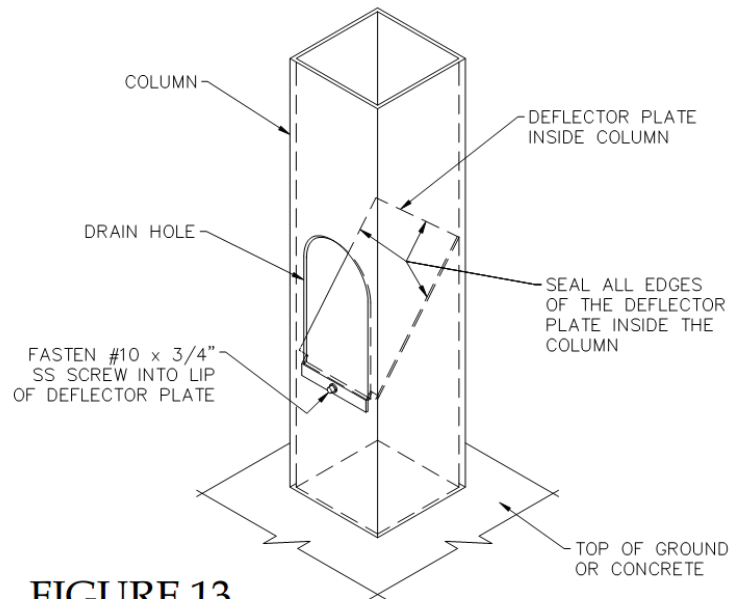

FIGURE 13
column. Fasten the lip of the deflector plate to the face of the column with (1) #10 x 3/4" SS screw. Seal along all the edges of the deflector plate on the inside of the column (Figure 13).